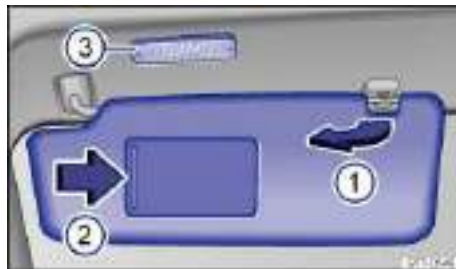

Fig. 86 Sun visor.
- Lift it out of the retaining clip and swivel it over toward the door ⇒ fig. 86 \(1\).